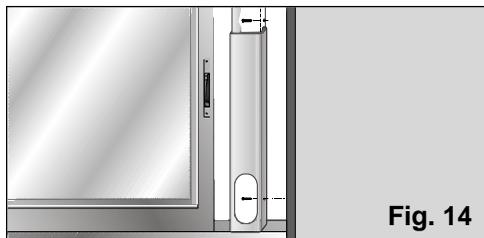

Fig. 14
- ❑ The accessory has two holes on the side to fit it to the window / balcony with. The user can secure it to the frame or wall with two screws (not included with the accessory) to prevent it from moving or falling out of place, **Fig. 14**.